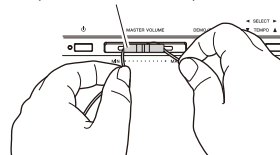

Fig. A-5 (図 A-5)
- A-7-1. Tie a string or the like to the slide knob and pull the string to remove the slide knob from the control panel side. (Fig. A-5)
(図 A-5)